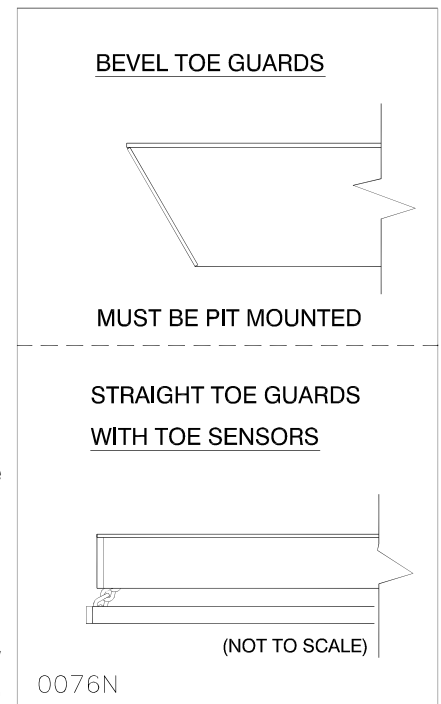

Figure 3: Platform Safety Features
1. Confirm that the table has been built for pit installation with either bevel toe guards or straight toe guards with toe sensors (See “Figure 3: Platform Safety Features” on page 7). If uncertain that your unit is suitable for pit installation contact your Pentalift representative.